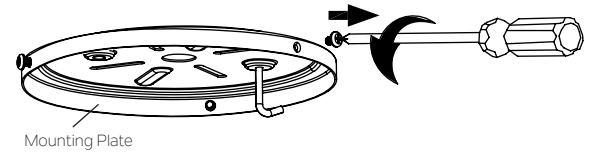

Fig. 10
**Step 1.** Remove one of the three screws from the mounting plate and keep for later use. Loosen the other two (do not remove). (Fig.10)